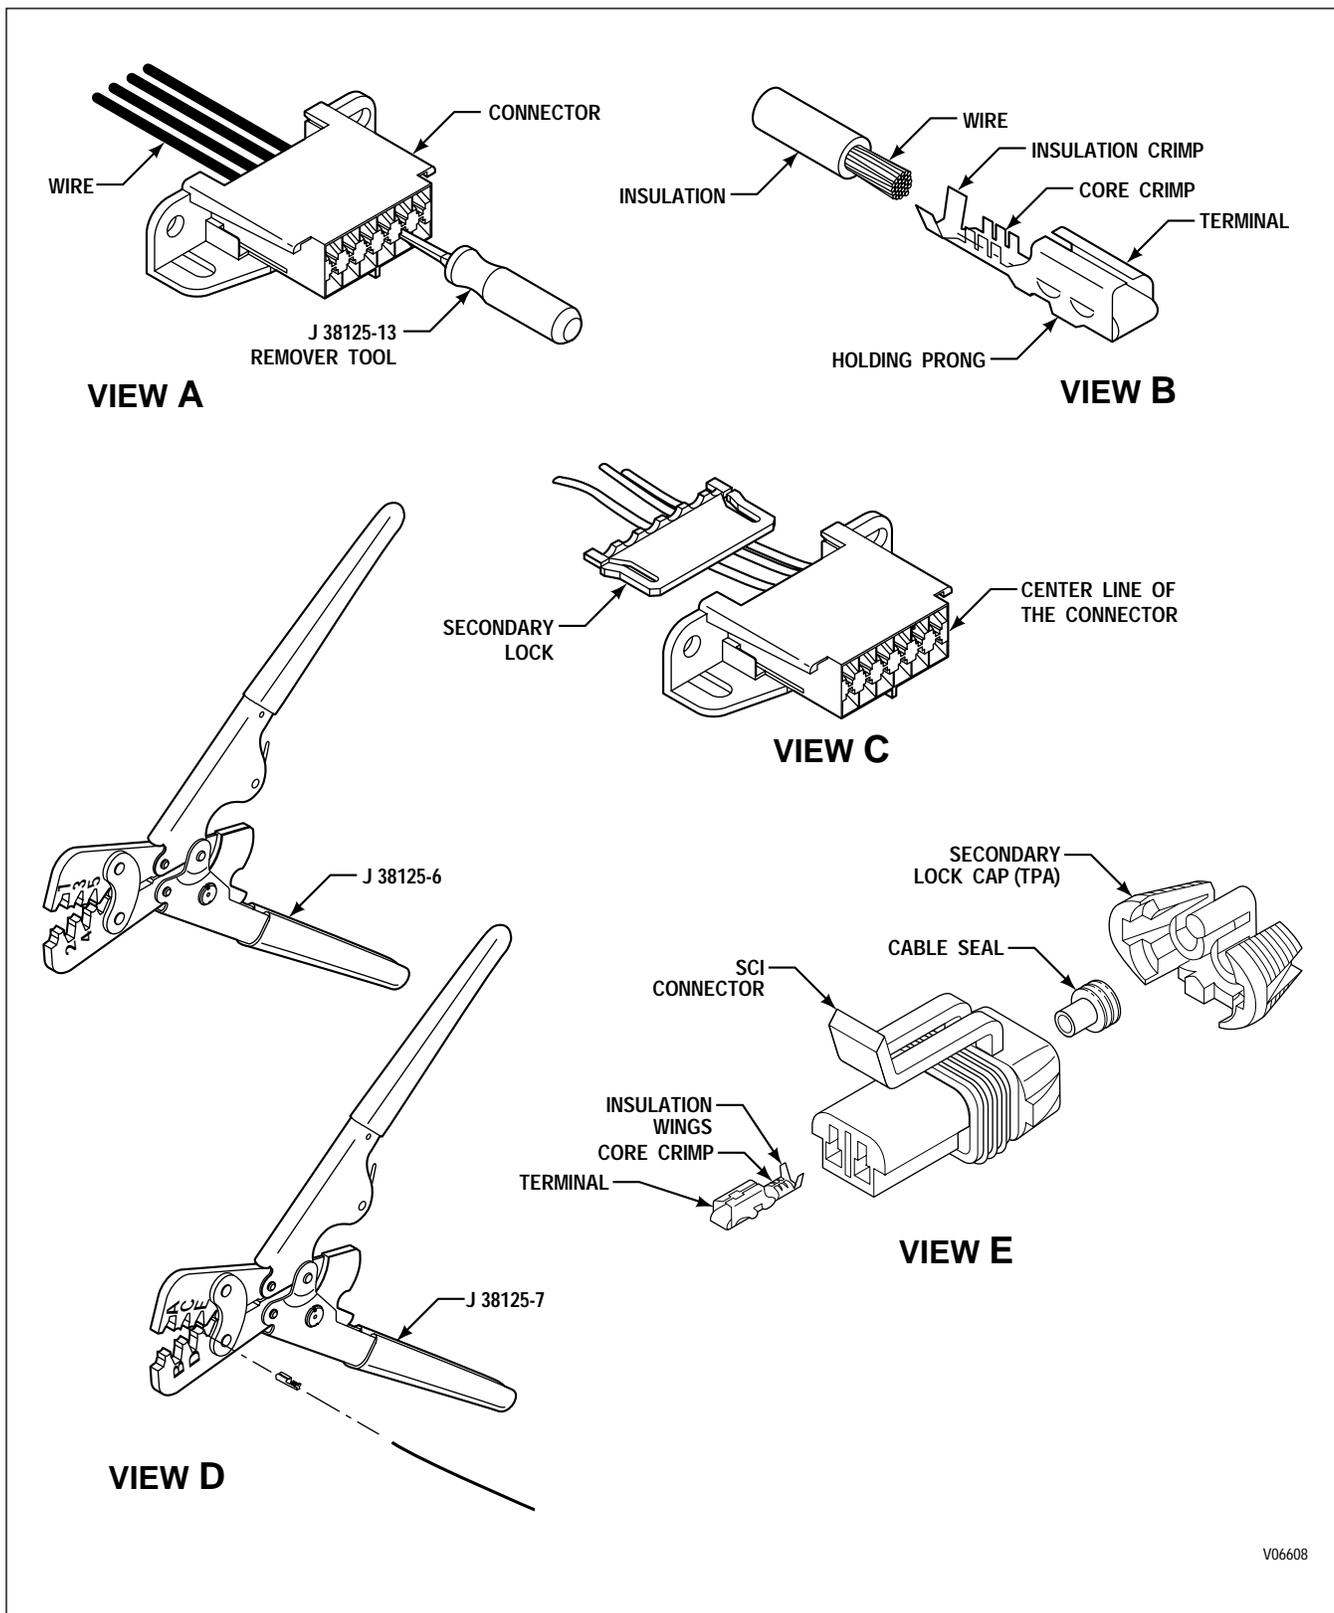

Figure C-4. Delphi-Packard Metri-Pack 280 Series Connectors — Push-to-Seat (DDR and SCI)
1. Remove secondary lock from back of connector (Figure C-4, View C or E). (Use a small screwdriver or pick in the slots on each side of the connector.)
2. Insert remover tool J 38125-13 into open (front) end of connector at terminal to be serviced (Figure C-4, View A).
2. Insert terminal into crimping tool (Figure C-4, View D), anvil "2."
4. Align the terminal with its position in the connector and insert wire so that the stripped portion of the wire is in the core crimping area and the insulated portion of the wire is in the insulation crimping area (Figure C-4, View B).
5. Crimp the stripped section of the wire (Figure C-4, View D).
7. Use a pair of needle nose pliers, if necessary, to start the bend on the insulation crimp wings (Figure C-4, View D).
8. Crimp the insulated section of wire using anvil "A" of the crimpers shown (Figure C-4, View D).
11. Insert terminal into connector with the locktab toward the center line of the connector (Figure C-4, View C or E).